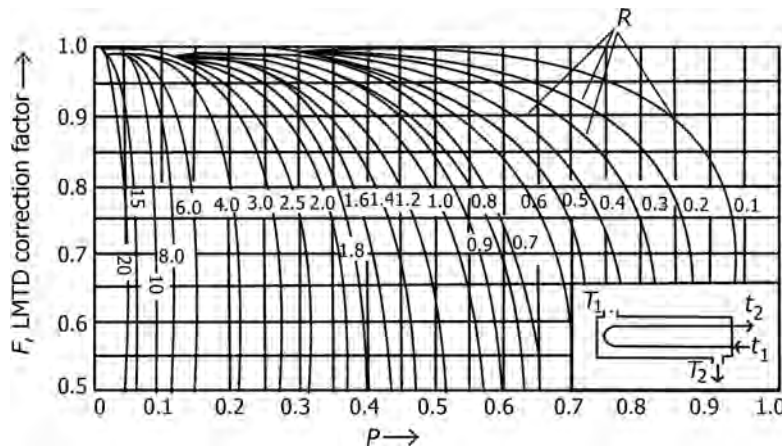

FIGURE 10.40 LMTD correction factors, F , for a 1–2 heat exchanger.
- The relationships among F , R , and P are given in the form of charts for different exchanger configurations as illustrated for 1–2 and 2–4 heat exchangers (Figures 10.40 and 10.41).